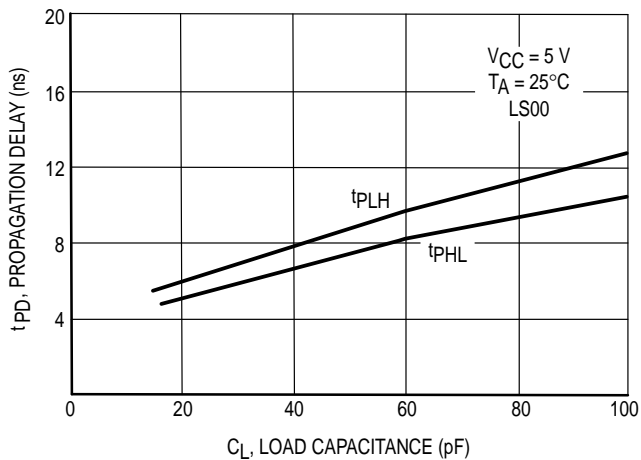
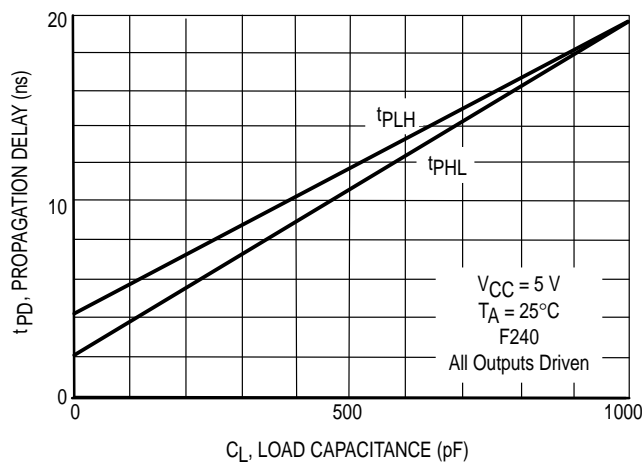

Figure 2-11a*
Figure 2-11d*
*Data for Figures 2-11a through 2-11c was taken with only one output switching at a time. Figure 2-11d data was taken with all 8 inputs of the F240 tied together.